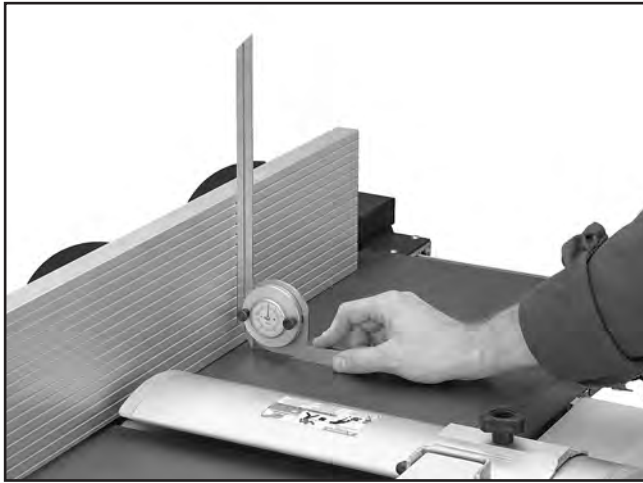

Figure 71. Adjusting fence to 90°.
2. Using a 90° square, adjust the fence to the 90° position, as shown in **Figure 71**.